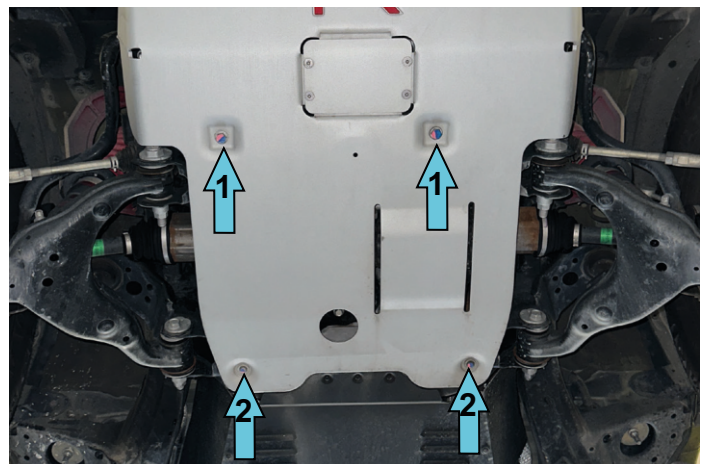

Fig.12
12.2 - Remove the rear most bolts of the factory engine skid plate as marked in fig.12.